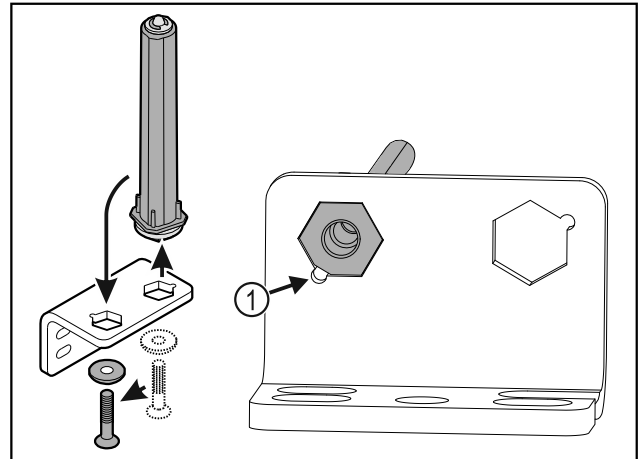

Fig. 35
- Make sure the pin chamfer Fig. 35 (1) faces the round hole when you put it in.